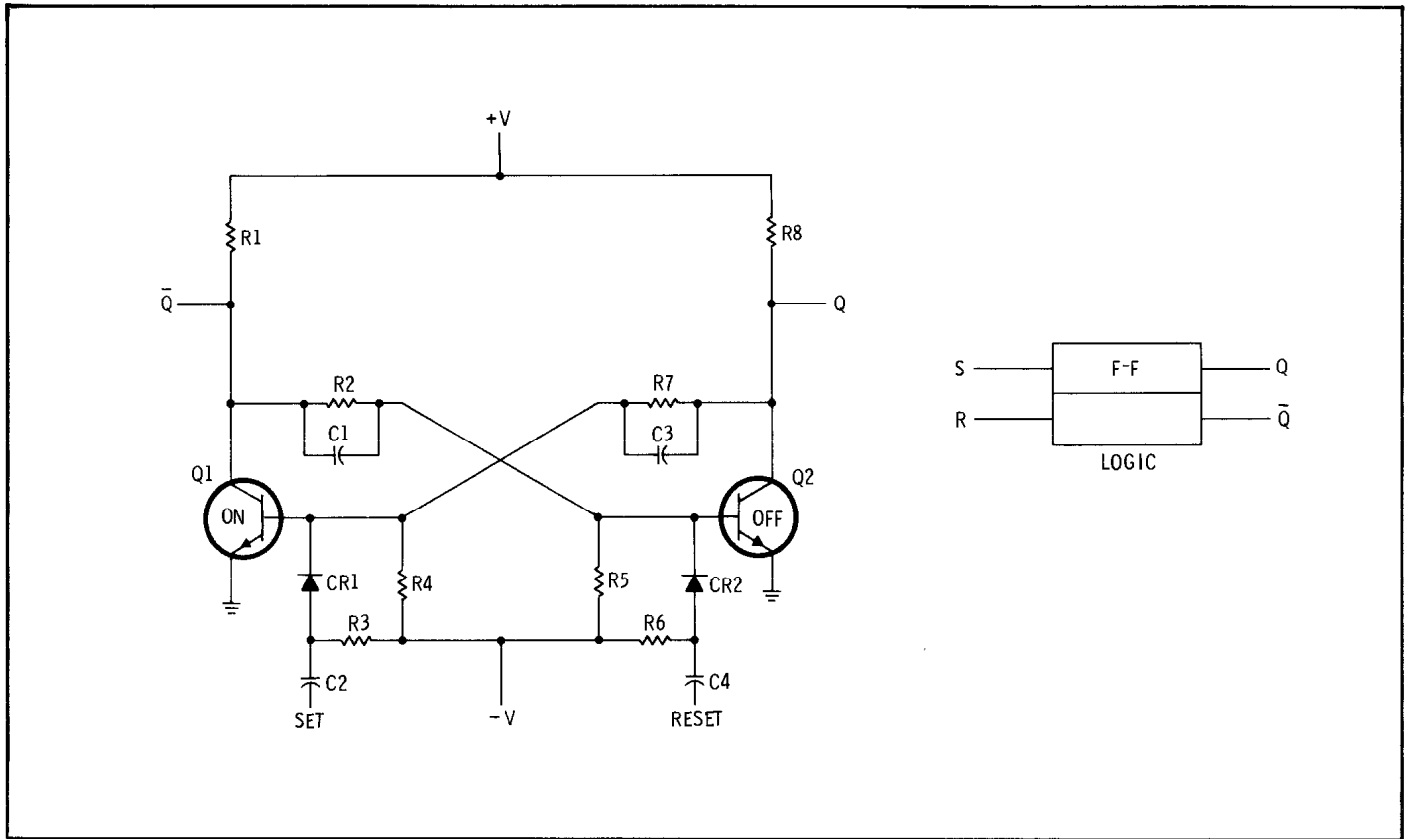

Figure 8-7. RS Flip-Flop
**8-38. RESET-SET (RS) FLIP-FLOP.** Figure 8-7 shows an RS flip-flop. The RS flip-flop has two inputs, S for Set and R for Reset (sometimes labeled S for set and C for clear). Assume that initially Q is high (Q2 off) and  $\bar{Q}$  is low (Q1 on). In this state the flip-flop is set and a positive pulse at the set input will not affect the circuit. When a positive pulse is applied to the reset input it is coupled through C4 and CR2 to the base of Q2. Q2 begins to conduct and the negative going collector voltage is coupled through C3 to the